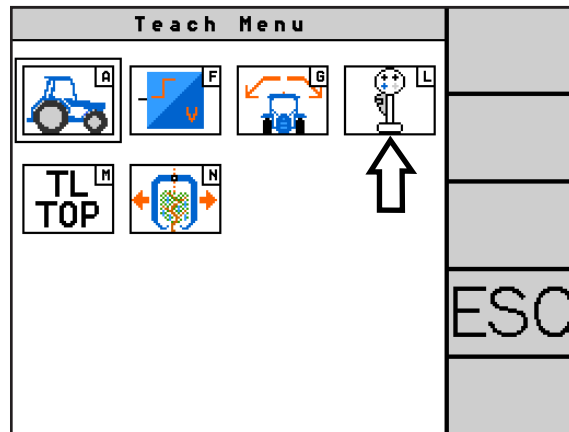

Fig. 70: Accessing the joystick teaching
Select the joystick symbol (L) in the teach menu (see Fig. 70) to call up the “Teach joystick” menu.